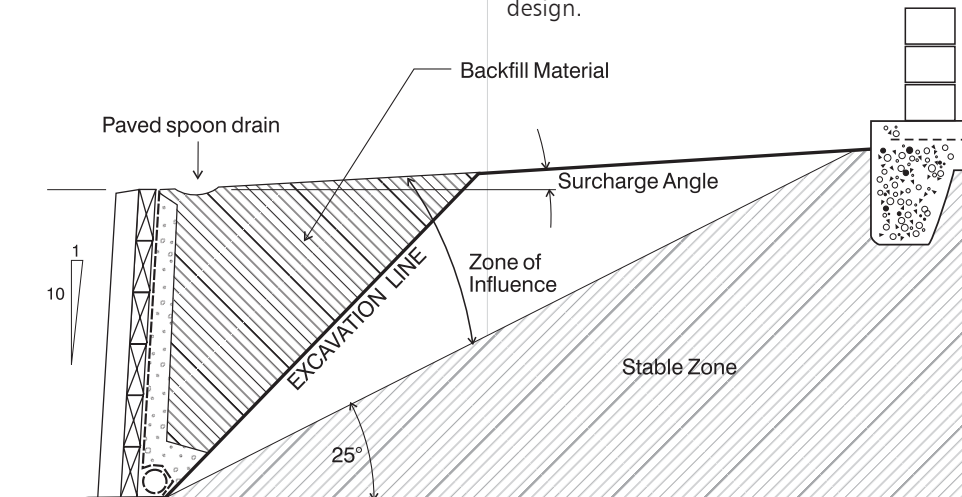

Figure 3 - Stable zone
The horizontal force generated by the vertical load of permanent structures can have significant impact on the performance of retaining structures. Permanent structures include (but are not limited to); buildings, pools, roads, parking areas, water tanks, general storage. If any such structures will impact within the zone of influence, as per Figure 3, the retaining wall design should be referred to a structural/geotechnical engineer. Fences of lightweight materials (timber, metal etc) constructed on or above the wall do not impact on the design of the walls.
A retaining structure constructed within the zone of influence of another retaining structure will apply additional loads to the lower wall. **Terraced walls require specific design by structural / geotechnical engineers.** This includes installing a new retaining wall above **or** below an existing retaining structure. The attached tables should not be used for designing any retaining structure with an existing or future retaining structure above or below such that the upper wall impacts within the zone of influence of the lower, as per Figure 3.
If a typical house foundation is located within the stable zone (shown shaded in Figure 3) then it is outside the zone of influence and its presence will have a negligible effect on the stability of the wall. If this is the case, then the accompanying tables are valid, if otherwise refer to a structural/geotechnical engineer for a specific design.
- At the setting out stage (before excavation) check that the structures above the wall, such as house foundations, are sufficiently remote not to be affected. Refer to Figure 3 for these limitations.